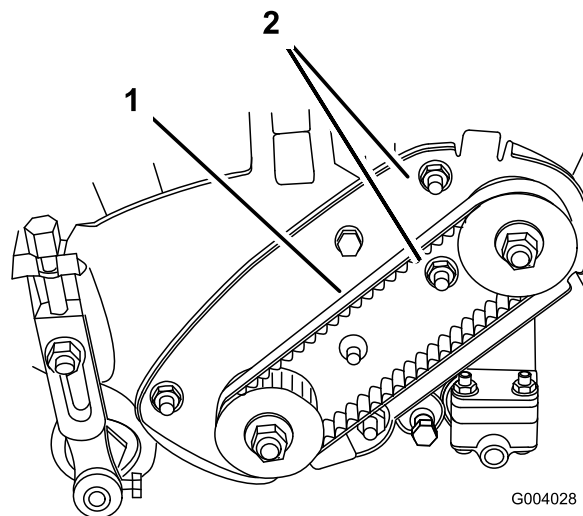

Figure 34
- A. Loosen the bearing housing mounting nuts (Figure 34).
- C. While holding the torque wrench setting, tighten the bearing housing mounting nuts (Figure 34). Do not over-tension belt.